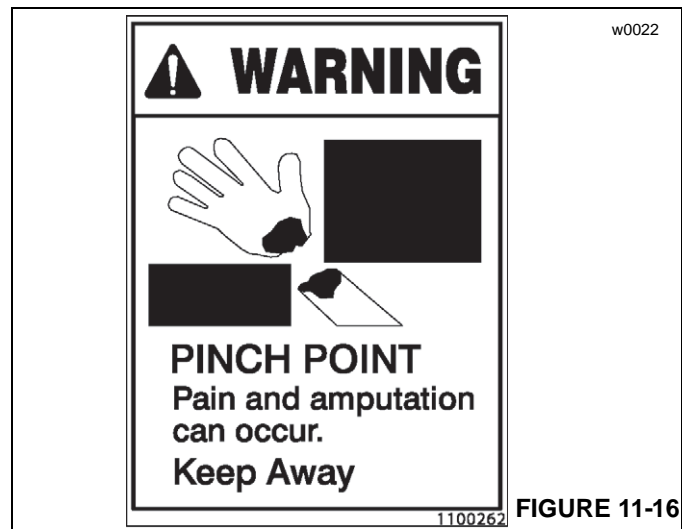

FIGURE 11-16
- Slightly loosen the four capscrews securing the swing gearbox (Figure 11-16).